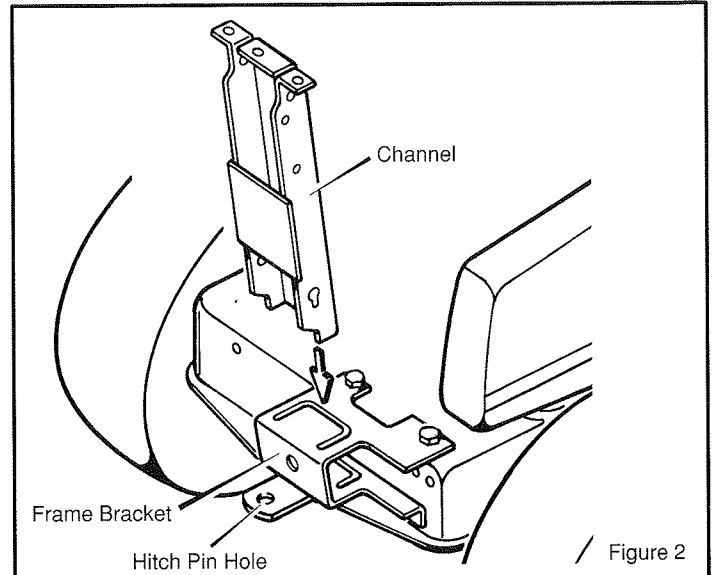

Figure 2
4. Mount the **channel** in the **frame bracket** (Figure 2).